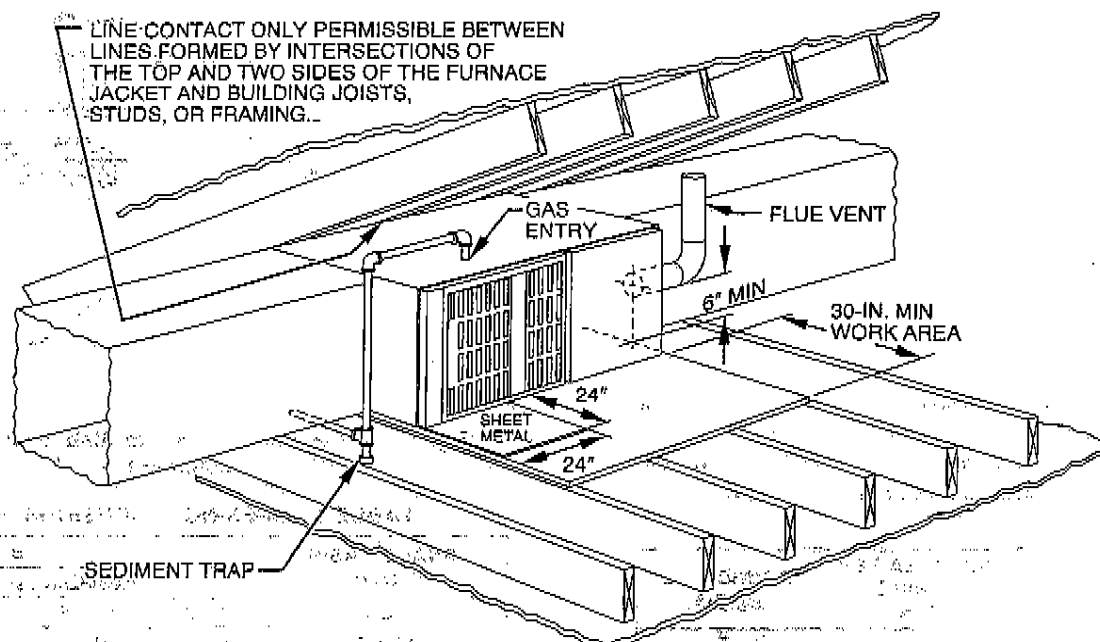

Fig. 7—Typical Attic Installation
The furnace can be installed horizontally on either the left-hand (LH) or right-hand (RH) side. A typical attic installation is shown in Fig. 7.
Construct working platform on location where all required furnace clearances are met. (See Table 1 and Fig. 7.)
2. Connect gas supply pipe. See Fig. 7 for typical piping entry.
5. Install 24" X 24-in. sheet metal shield on platform in front of louvered control panel as shown in Fig. 7.